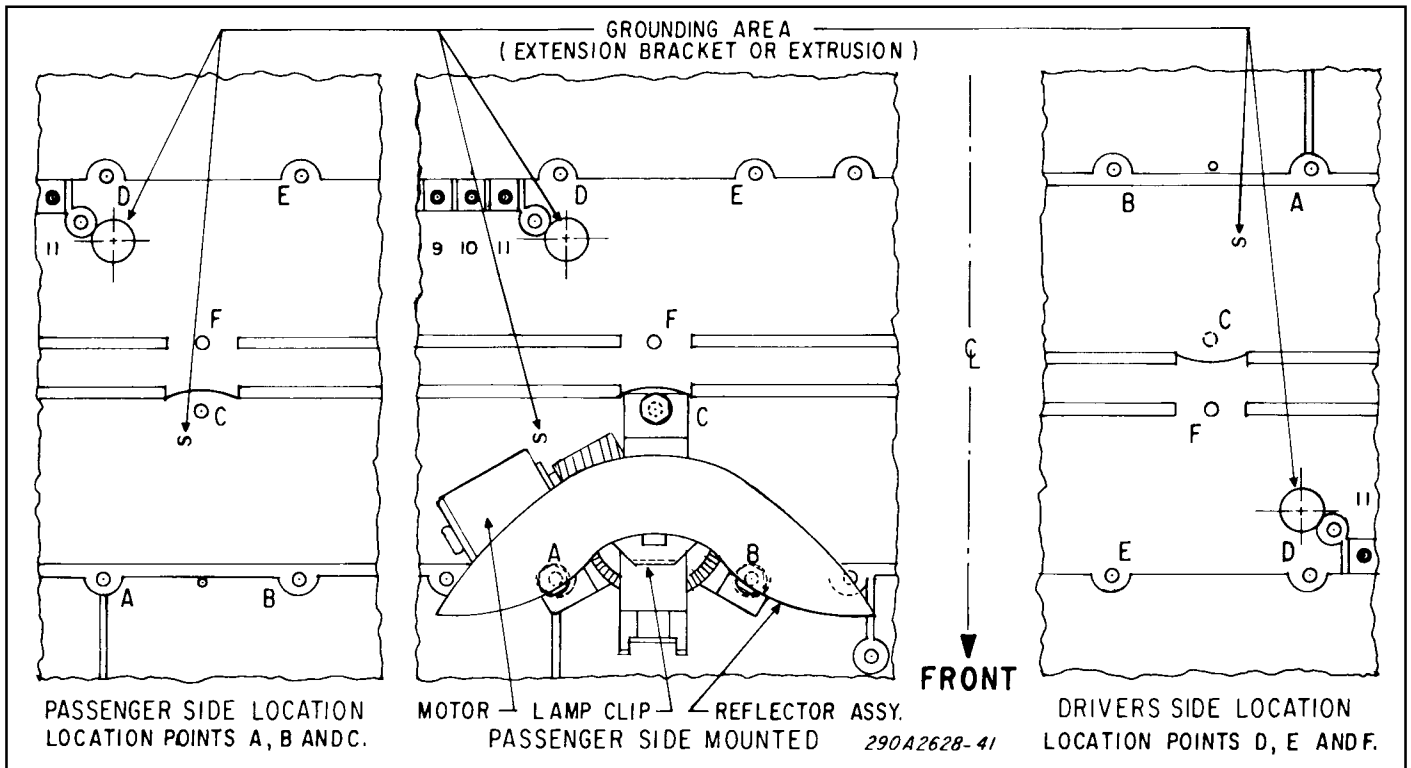

Figure 2.
a. See figure 2. Place the rotating light assembly in position over the appropriate screw hole locations. Hole locations "A", "B", and "C" are for the passenger side. Hole locations "D", "E", and "F" are for the driver side.
1. See figures 2 and 5. Attach the black motor wire's ring terminal to the lightbar's metal channel/extrusion using a #10 x 3/4" hex head thread-forming screw, lockwasher, ground spacer, and two flat washers.